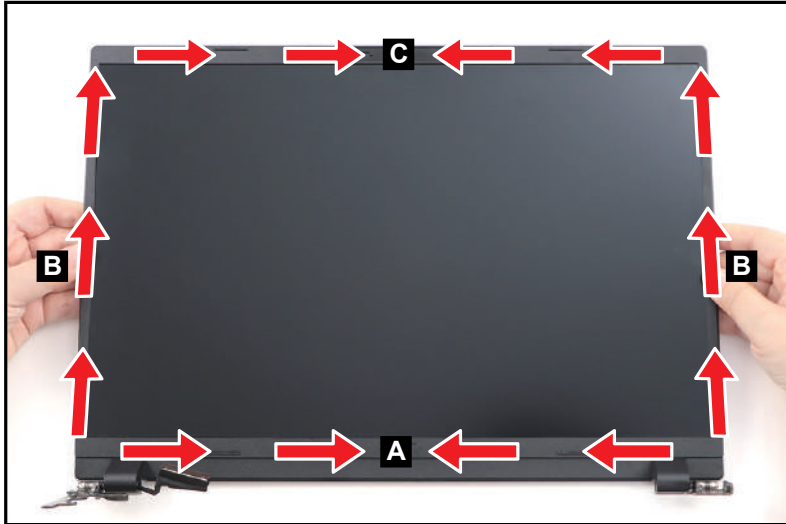

Figure 3-102. Replacing the LCD Bezel
2. Start pressing along the bottom side (A) of the LCD bezel to secure the latches to the LCD cover (Figure 3-102).
3. Continue pressing upward along the left and right sides (B) of the LCD bezel to engage the latches (Figure 3-102).
4. Finally, press along the upper side (C) of the LCD bezel to fully secure the bezel to the LCD cover (Figure 3-102).
When pressing on the latches, make sure to follow the direction of the arrows (Figure 3-102).